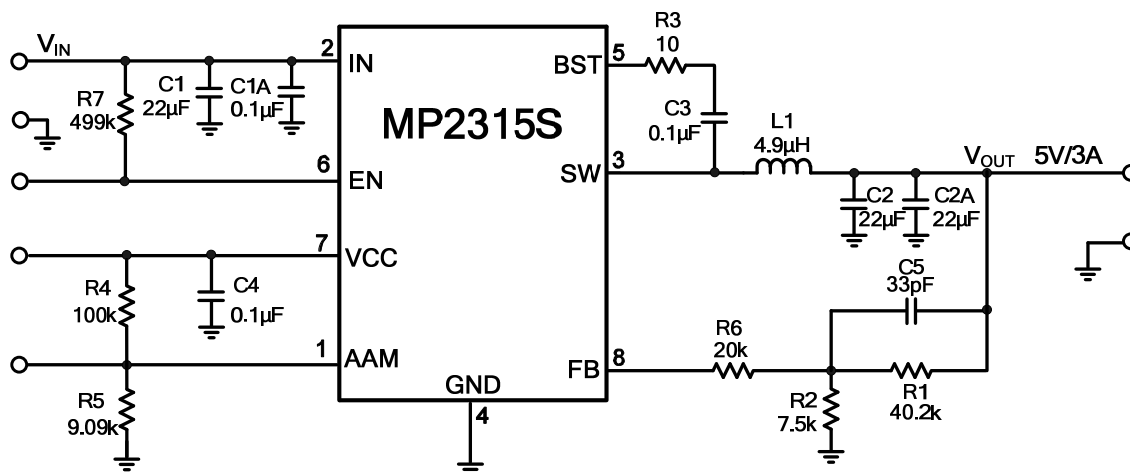

Figure 9:  $V_{IN} = 6.5V - 24V$ ,  $V_{OUT} = 5V$ ,  $I_{OUT} = 3A$
9) The recommended layout is based on Figure 9 on page 15.
The detailed application schematic is shown in Figure 9. The typical performance and circuit waveforms are shown in the Typical Performance Characteristics section. For more device applications, please refer to the related evaluation board datasheets.